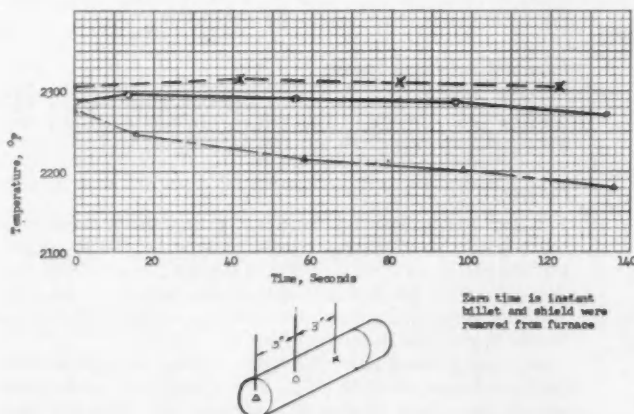

Fig. 3a — Steel billet cooling temperatures inside radiation shield. 3b — Billet cooling temperatures without shield.
- **Radiation shield** — This was redesigned to give more complete protection against radiation and convection losses (Fig. 2). Efficiency of the shield was established by comparing cooling temperatures of a billet exposed to air after furnace heating. Figs. 3a and 3b show the test results, with temperature plotted against seconds.